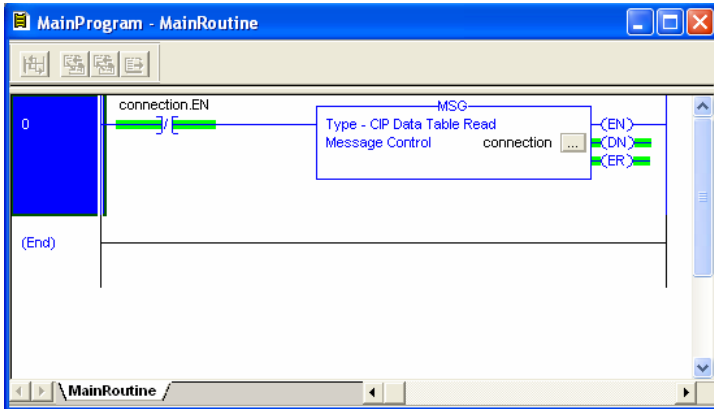

Figure 50: Complete Program
6) The program is now complete. Refer to Figure 50.